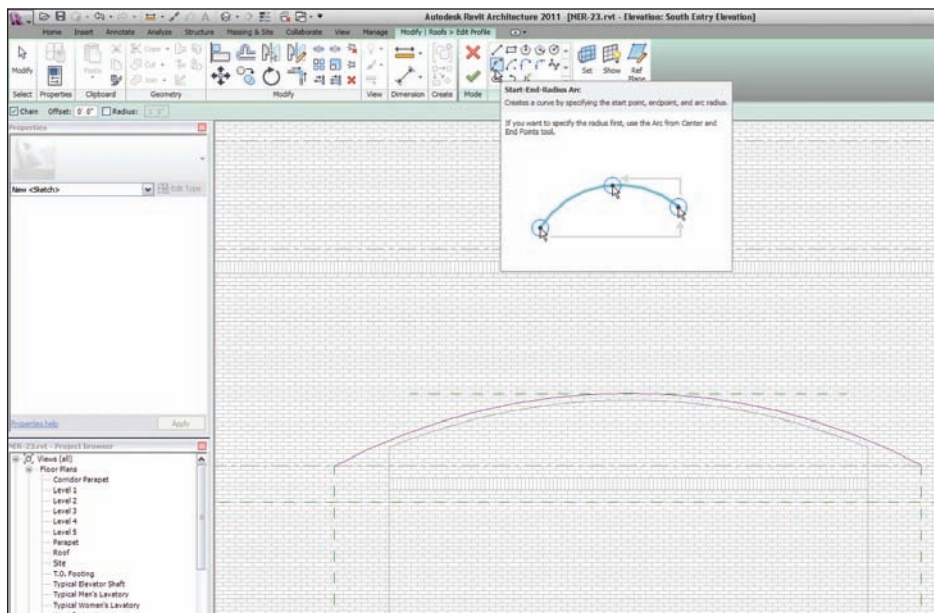

FIGURE 7.53 Drawing an arc, which will define the outside face of the roof
1. On the Draw panel, click the Start-End-Radius Arc button, as shown in Figure 7.53.
2. Draw an arc from the points shown in Figure 7.53.